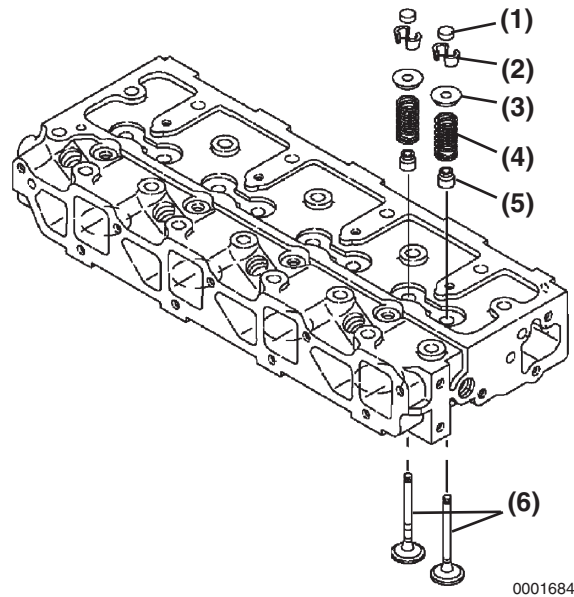

Figure 6-11
2. Remove the valve cap (**Figure 6-11, (1)**) and keep with the valve it was installed on.
4. Remove the valve keepers (**Figure 6-11, (2)**).
6. Remove the spring retainer (**Figure 6-11, (3)**) and valve spring (**Figure 6-11, (4)**).
8. Turn the cylinder head so the exhaust port side faces down. Remove the intake and exhaust valves (**Figure 6-11, (6)**) from the cylinder head.
9. Remove the valve stem seals (**Figure 6-11, (5)**).